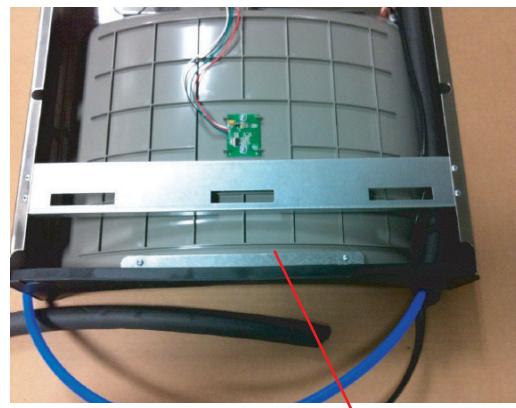

Figure 4
6. Install gasket on bottom of bottle filler tower with gasket support bracket and (2) screws. See Figure 4.